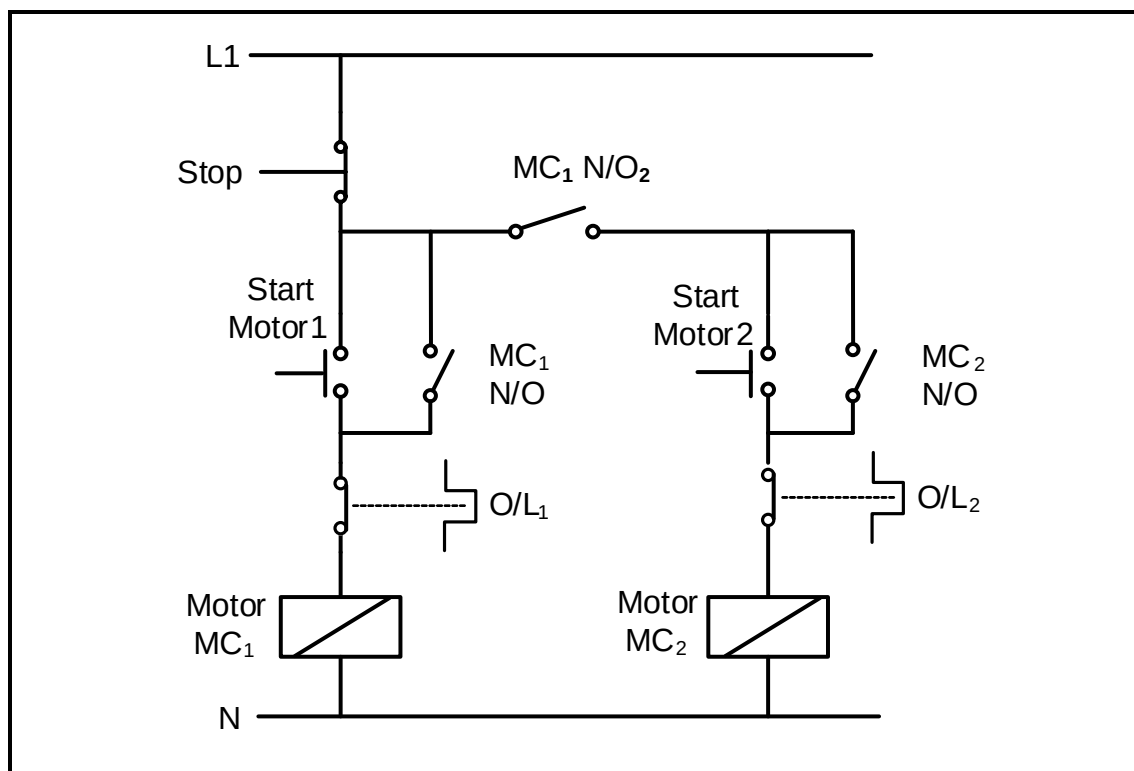
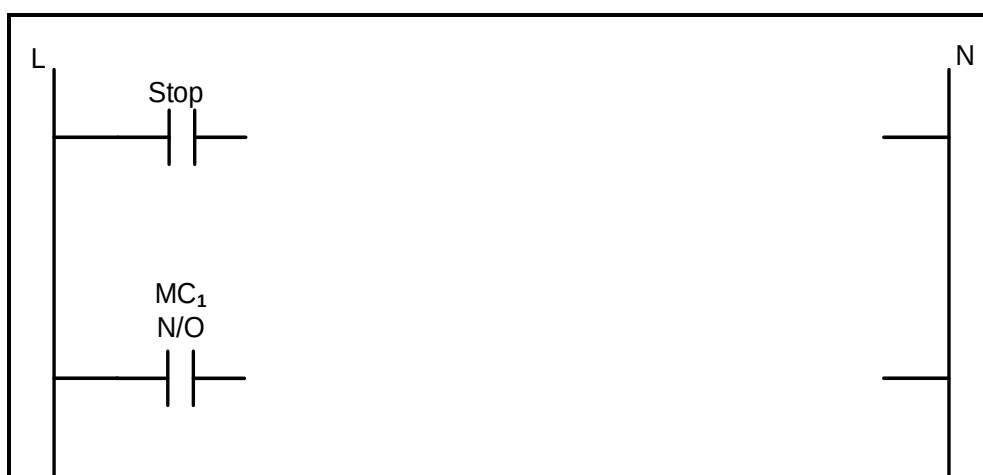

FIGURE 7.6: MANUAL SEQUENCE STARTER WITHOUT A TIMER
FIGURE 7.6.1
7.6 Refer to FIGURE 7.6 below and answer the questions that follow.
7.6.1 Redraw in the ANSWER BOOK and complete the ladder logic diagram for FIGURE 7.6.1 below that executes the same function as the one in FIGURE 7.6.